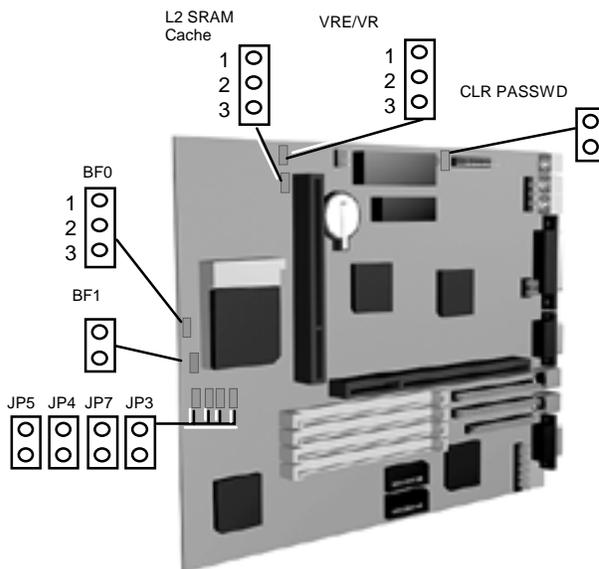

Figure B-1 System Board Jumper Locations
Figure B-1 shows the location of the system board jumpers.
5. Locate the Processor/Bus Speed jumper blocks on the system board (see Figure B-1).
1. Locate the L2 SRAM Cache jumper on the system board (see Figure B-1).
3. Locate the Password Clear jumper block on the system board (see Figure B-1). Remove any expansion boards blocking access to the jumper.